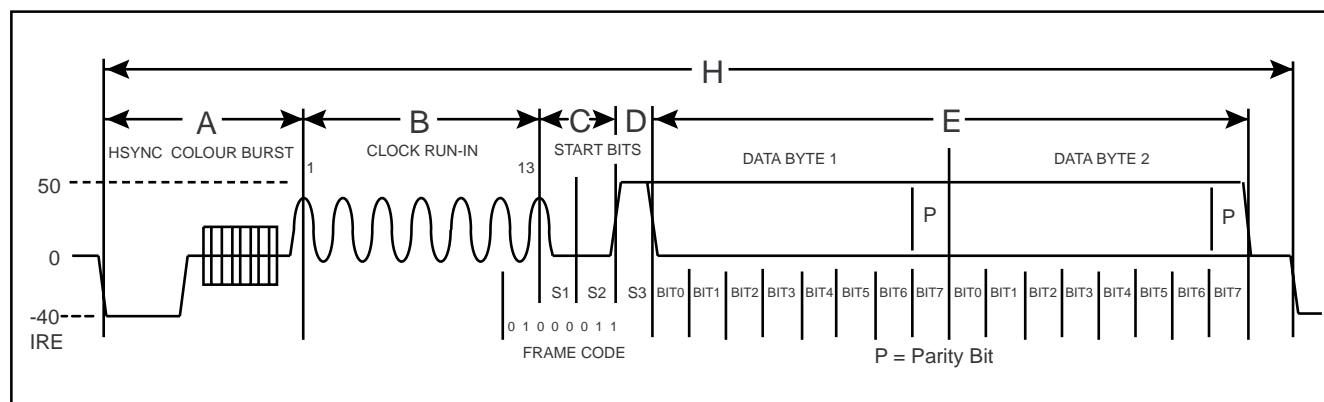

Figure 7 Closed Caption format
Two bytes of data are coded on the line 21 of each field, see figure 7. In the NTSC Closed Caption service, the default state is to code on line 21 of field one only. An additional service can also be provided using line 21 (284) of the second field. The data is coded as NRZ with odd parity, after a clock run-in and framing code. The clock run-in frequency = 0.5034965MHz which is related to the nominal line period, $D = H / 32$.